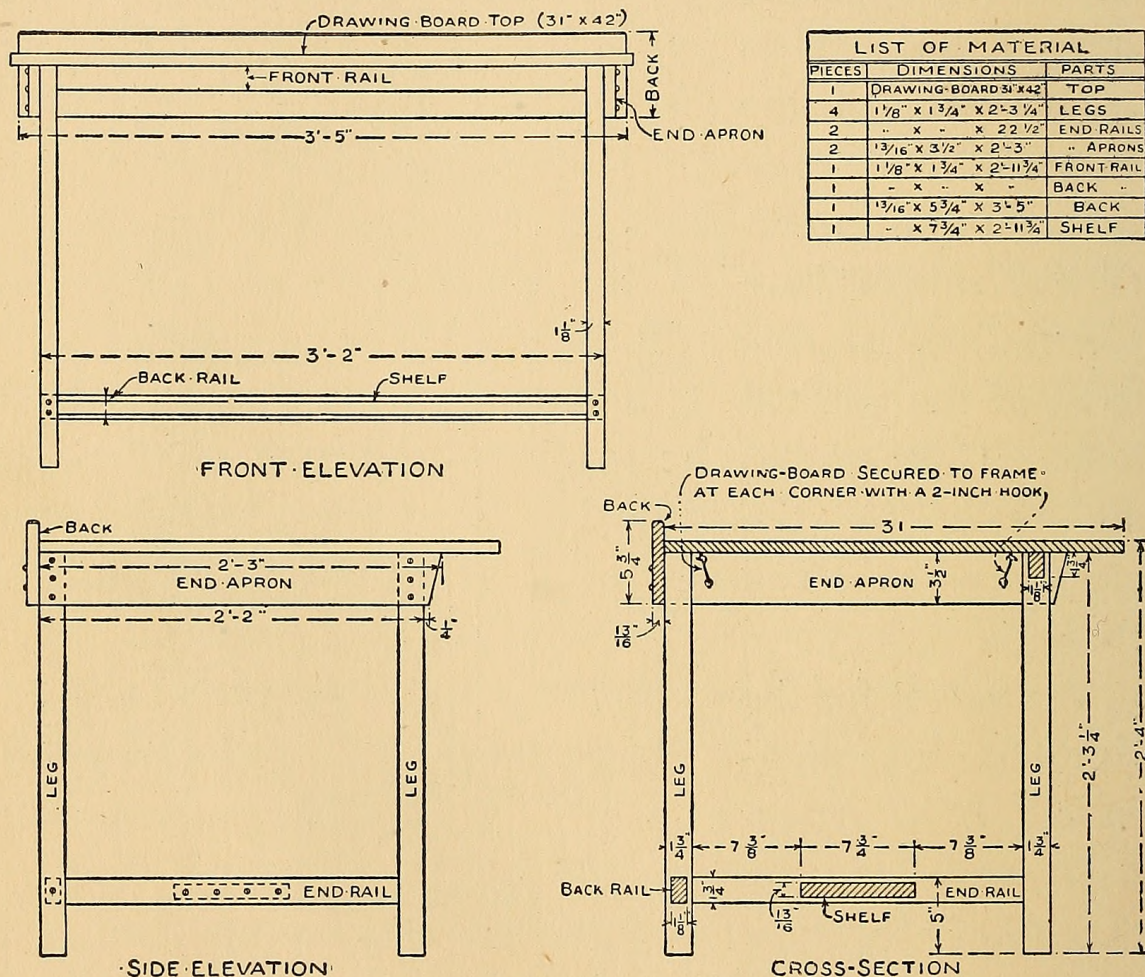

FIG. 147. — Details of Drafting Table shown opposite page 86.
**A Drafting Table** the author has used in his home work-room for a number of years. Probably not many of you boys will do enough drafting to require such a table for the purpose, but it also makes a splendid desk table, and for this reason working details for its construction are given in Fig. 147. The legs, aprons, back, rails, and lower shelf are screwed together, no mortising entering into the table's construction. A drawing-board was used for the top of the table, and this is held securely in place, as shown, by means of hooks and screw-eyes. A large drawing-board can be purchased as cheaply as you can have one made, and it will be built up of well-seasoned material and be properly cleated so that it will not warp out of shape or split. If you want to make